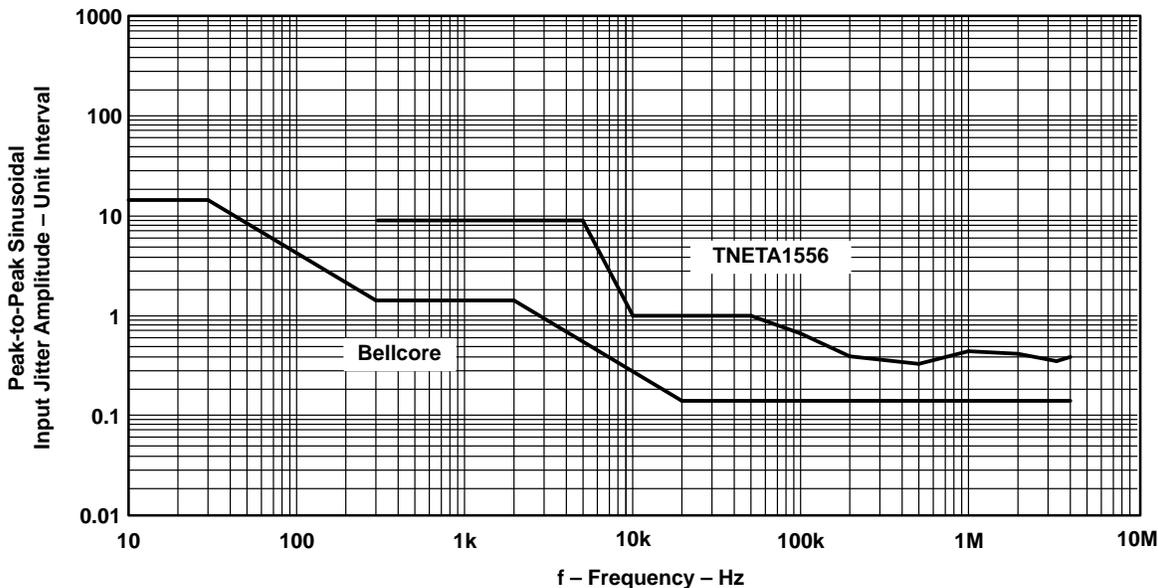

Figure 2. Jitter Tolerance (worst case)
Jitter tolerance is a measure of the ability of the clock-recovery circuit to tolerate an input signal without experiencing a bit error. For this test, the Bellcore SONET category II jitter-tolerance mask was used (Bellcore specification TR-NWT-000253). The worst-case performance was measured with  $V_{CC} = 5.25$  V at a free-air temperature of 85°C. Table 2 and Figure 2 show the results for this test.
**Table 2. Jitter-Tolerance Values Used in the Graph of Figure 2**